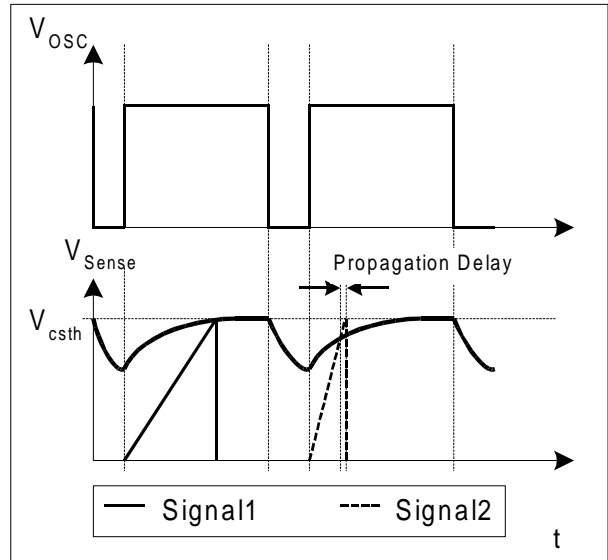

Figure 15 Dynamic Voltage Threshold V_{csth}
E.g. $I_{peak} = 0.5A$ with $R_{Sense} = 2$. Without propagation delay compensation the current sense threshold is set to a static voltage level $V_{csth} = 1V$. A current ramp of $dI/dt = 0.4A/\mu s$, that means $dV_{Sense}/dt = 0.8V/\mu s$, and a propagation delay time of i.e. $t_{Propagation Delay} = 180ns$ leads then to an I_{peak} overshoot of 12%. By means of propagation delay compensation the overshoot is only about 2% (see Figure 15).
The propagation delay compensation is done by means of an dynamic voltage threshold V_{csth} (see Figure 15). In case of a steeper slope the switch off of the driver is earlier to compensate the delay.